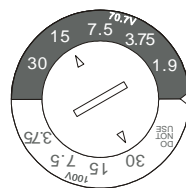

Figure 10
Step 7 – Adjust Tap Selector. Located on the front baffle. Adjust the tap setting before inserting the grille. (Figure 10)